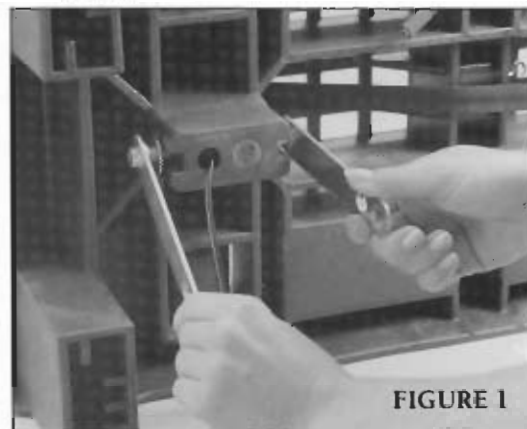

FIGURE 1
4. Use the two large flat wrenches to remove the 4" bolt, nut and washers that secure the upright tube to the underside of the base (Figure 1).